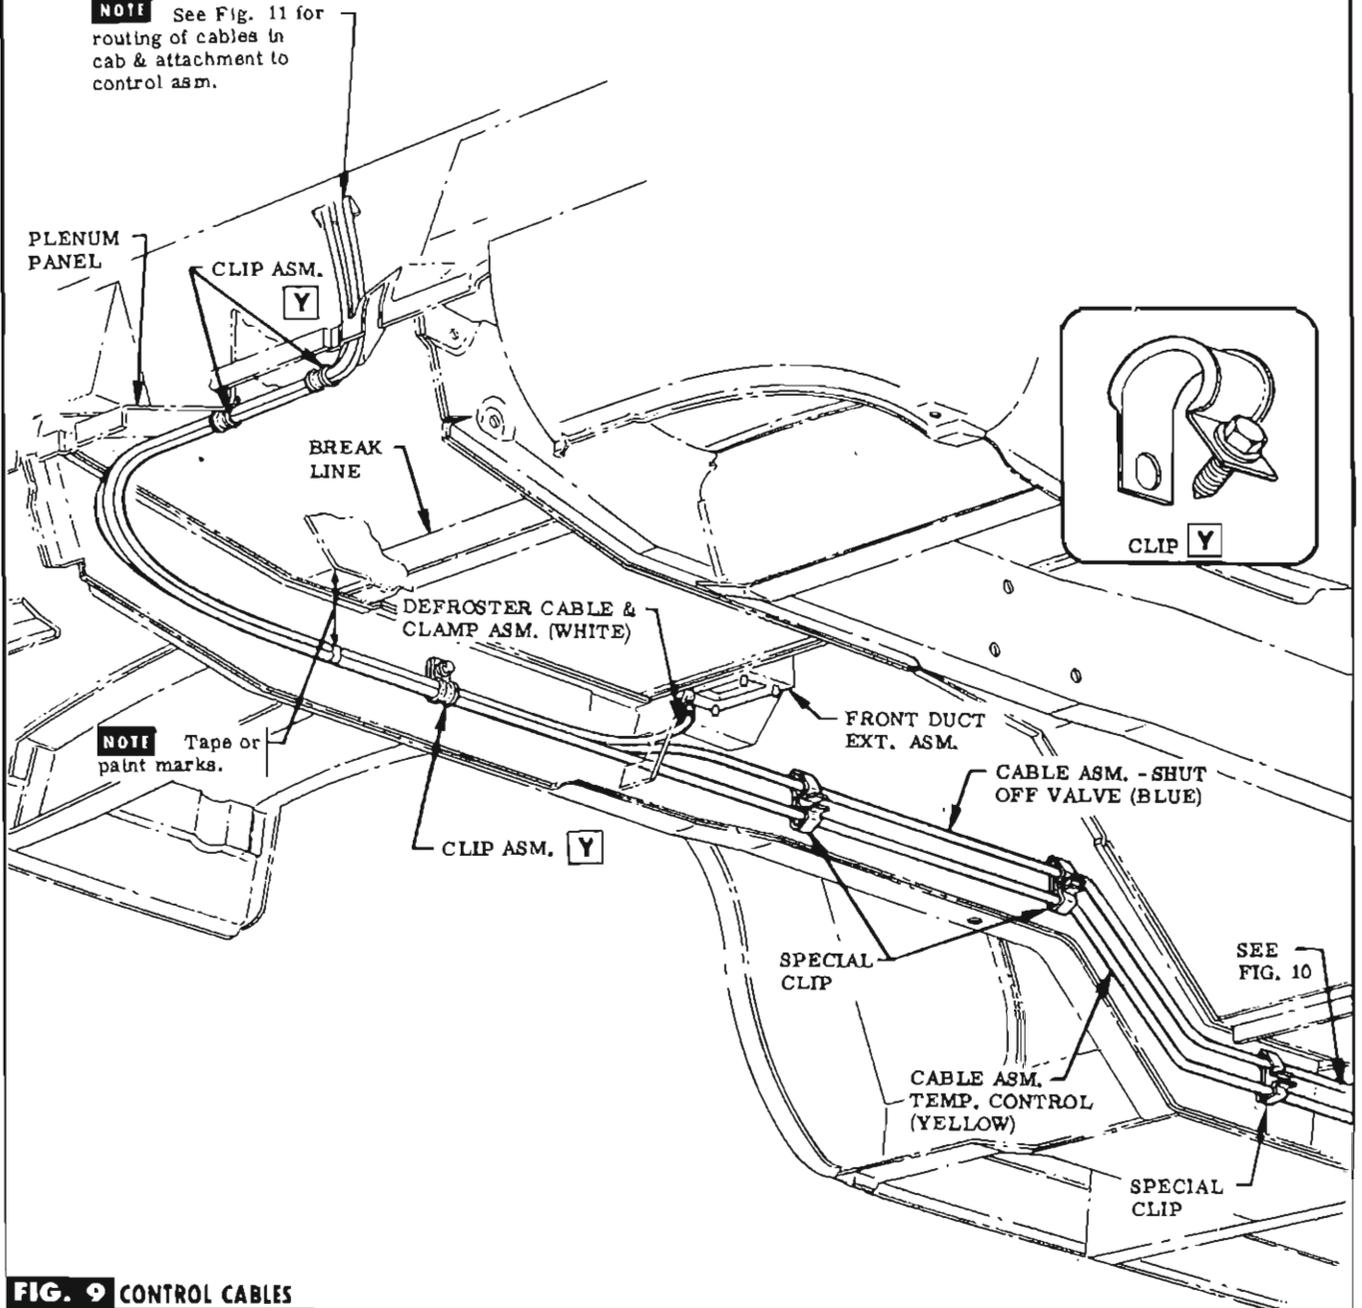

FIG. 9 CONTROL CABLES
STEP 46 ALIGN TAPE OR PAINT MARKS ON THE CABLES DIRECTLY BELOW FLOOR TO TOE PANEL BREAK LINE BEFORE CLIPPING TO UNDERBODY. ROUTE CABLES ALONG RIGHT SIDE RAIL & ATTACH TO EXISTING HOLES IN PLENUM PANEL & SIDE RAIL WITH CLIPS (IN BAG B). SEE FIG. 9.
STEP 47 ATTACH SHUT OFF CABLE TO TEMP. CABLE WITH CLIPS (IN BAG B) & INSERT CLIPS INTO EXISTING HOLES IN SIDE RAIL. SEE FIG. 9.
NOTE: For front installation of cables in vehicles, See Fig. 9.